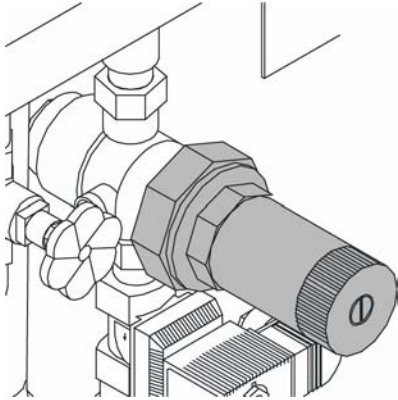

Fig. 70: Pressure reducer valve
- Adjust a pressure of 1.9 bar (27.6 psi) at maximum passage on the pressure reducer valve (Fig. 70).